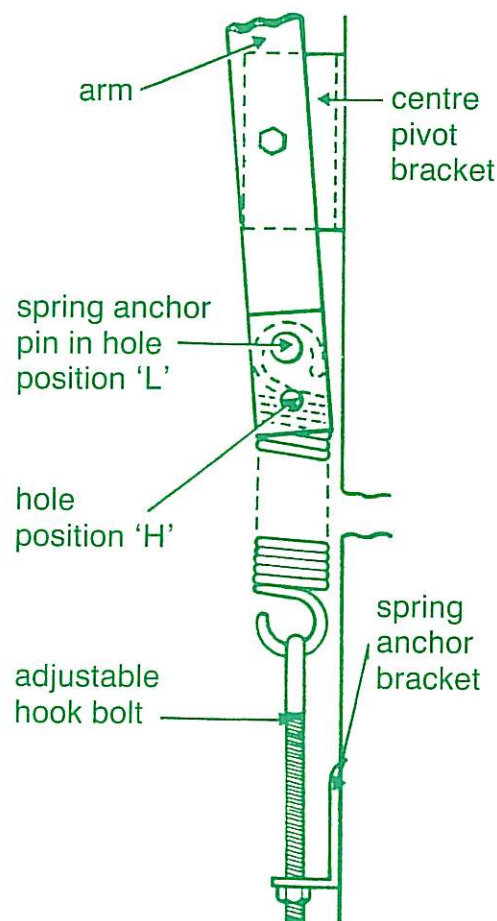

Fig. 11
- 14.** With door still in open position, place hook adjuster bolt in spring anchor bracket and adjust hexagon nut so that the hook bolt is fully extended. Place loop of tension spring in hook adjuster bolt and top loop over spring anchor pin of pivot arm. Make sure top loop fits firmly in the groove. See Fig. 11.